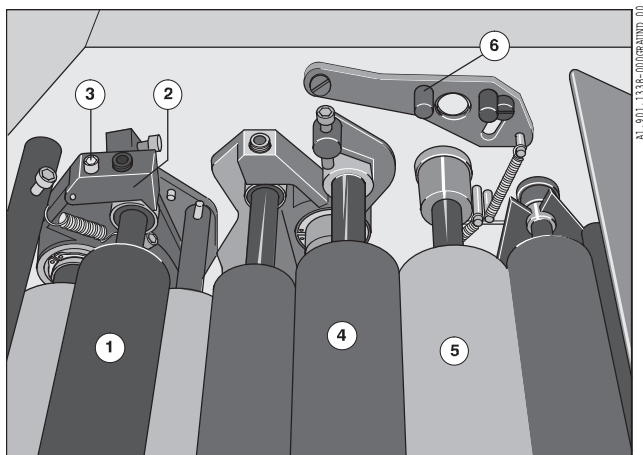

Fig. 55 Inserting the 4th ink transfer roller and rider roller
1. Insert the 4th ink transfer roller (Fig. 55/1) on both sides in the bearings.
2. Place latches (Fig. 55/2) across the ball bearings on both sides.
3. Tighten the Allen screw (Fig. 55/3) with the operator tool.
1. Place the rider roller on the 1st ink transfer roller (Fig. 55/4) and the ink distributor (Fig. 55/5).
2. Press the rider rollers on both sides under the bearing bolts (Fig. 55/6, D.S.).
The rider roller is pressed against the ink distributor (Fig. 55/5) by spring pressure and need not be adjusted.